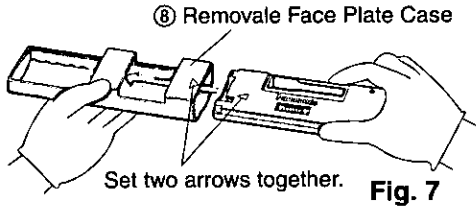

Fig. 7
④ As shown in Fig. 7, insert the removable face plate with the arrow pointing toward the removable face plate case until you hear a "click". Keep the removable face plate in the case. Then, you can bring the plate safely.